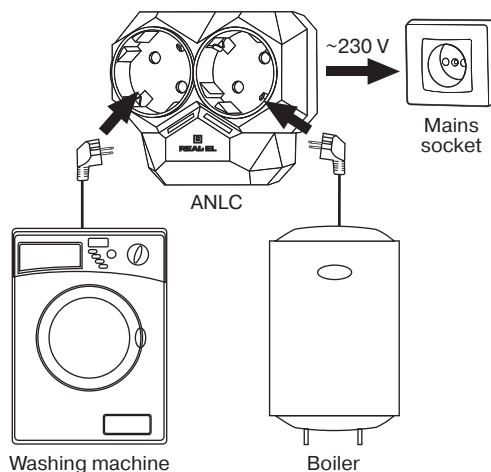

Fig. 2. Tentative connection diagram
- Plug ANLC's power cord ❶ into a standard socket of the home power supply system 230 V/50 Hz (see the tentative connection diagram in Fig. 2). Indicators ❷ and ❸ active.
- Connect one of household electric appliances to the second socket ❷ the operation of which is uncritical to the short-time power supply failures (for example, electric water heater, electric convector, floor heating electrical system etc.).
- Connect an electrical device to the "Priority" socket ❶, the operation of which is required at the moment and the power supply failure to which is inadmissible (for example, automatic washing machine and dishwashing machine, electric pump of the water supply system, electric kettle, microwave oven, hair dryer etc.).
- If a device connected to the "Priority" socket ❶ consumes more than 100 W, the power supply to the second socket ❷ is disconnected automatically. At that, the indicator ❸ is not active. The power supply to the second socket is recommenced automatically after 2 seconds after power reduction consumed by a device plugged in the "Priority" socket below 100 W (sleep mode, timer mode etc.). When the device connected to the "Priority" socket starts to operate at full capacity, the cycle recurs once again.
- Example of ANLC operation is given in Fig. 2. A washing machine plugged in the "Priority" socket is preset in the timer mode. While the timer of the washing machine does not start the washing mode, the water heater plugged in the second socket will continue to operate. As soon as the washing machine starts to operate, the second socket will be disconnected until the washing process is over (when the second socket is disconnected, indicator ❸ is not active).